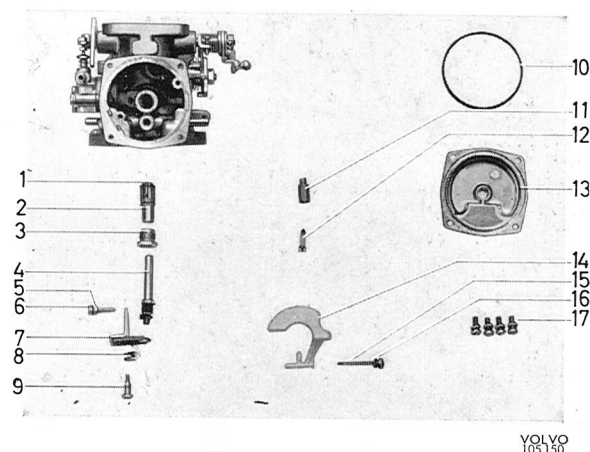

Fig. 2-128. Lower section disassembled
Remove the float chamber by removing the four screws (17, Fig. 2-128) for the cover. Use a new rubber ring (10) when installing the cover. The cover should be installed with the inside collar at the float valve.